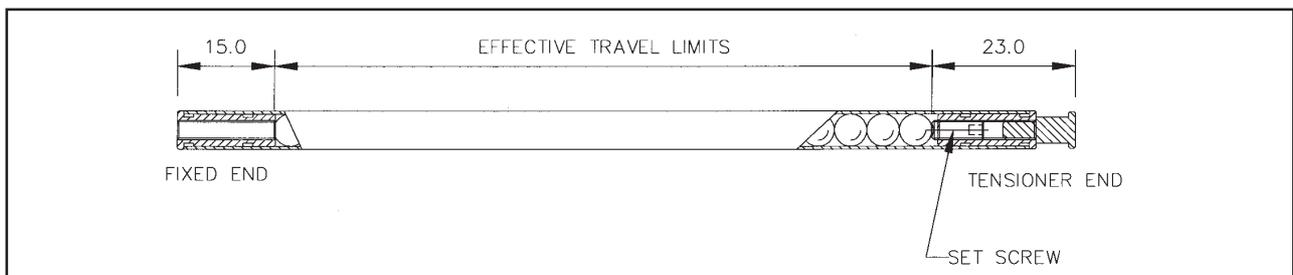

Figure 5.7 - The Microsyn Scale
- (A) Erroneous readings will occur if the Microsyn Reader Head is allowed to travel beyond Effective Travel Limits. (Refer to Figure 5.7)
- (B) The pre-load on the balls are factory set via the set screw at the tensioner end. Do not tamper with or adjust the set screw as this will alter the calibration and accuracy specification of the scale and void the warranty.
- (C) When mounting scales in the vertical plane the tensioner end should be positioned at the top.